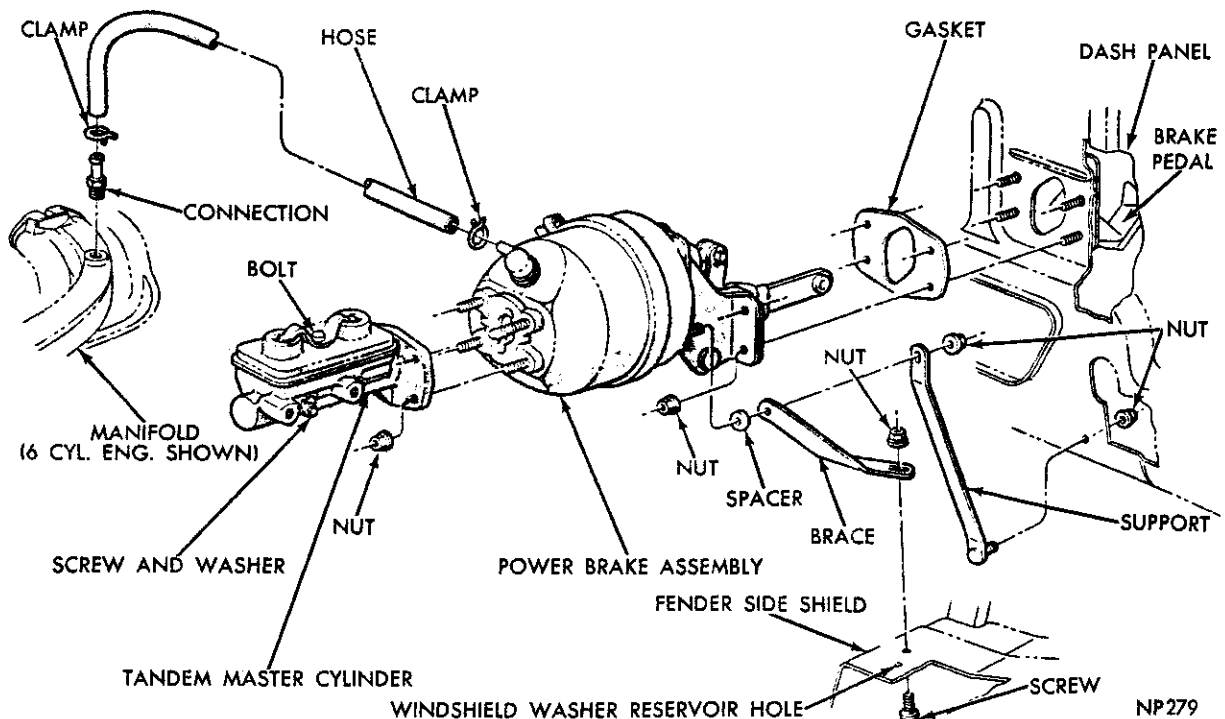

Fig. 1—Power Brake Assembly
The tandem diaphragm power brake (Fig. 1) is a vacuum unit which utilizes engine intake manifold vacuum and atmospheric pressure to provide power assisted application of the vehicle brakes. The power
- (1) Remove nuts attaching master cylinder to brake unit. Remove master cylinder from unit.
- (2) Disconnect vacuum hose from power brake check valve.
- (3) Remove nut attaching brace and support to power unit (Fig. 1).
- (4) Remove nut and bolt that attach power brake pedal link to pedal. (Under instrument panel.)
- (5) Remove nuts and washers that attach power brake unit to dash panel and remove unit.